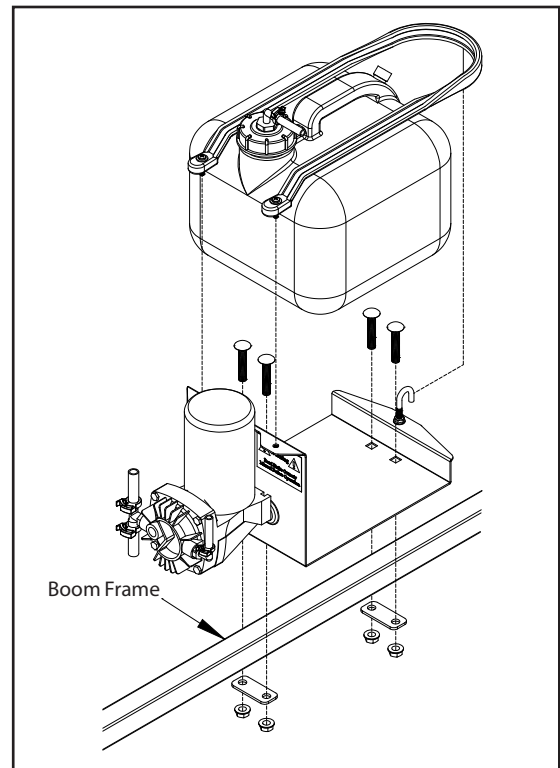

Figure 2: Turf Foam Marker Unit Mounting
1. If mounting the turf foam marker on a CropCare® sprayer, place it on the center of the boom frame (Figure 2). Attach the turf foam marker by using the included 3/8" carriage bolts to clamp the turf foam marker frame around the main boom tube. The unit may be mounted in either direction on the boom.